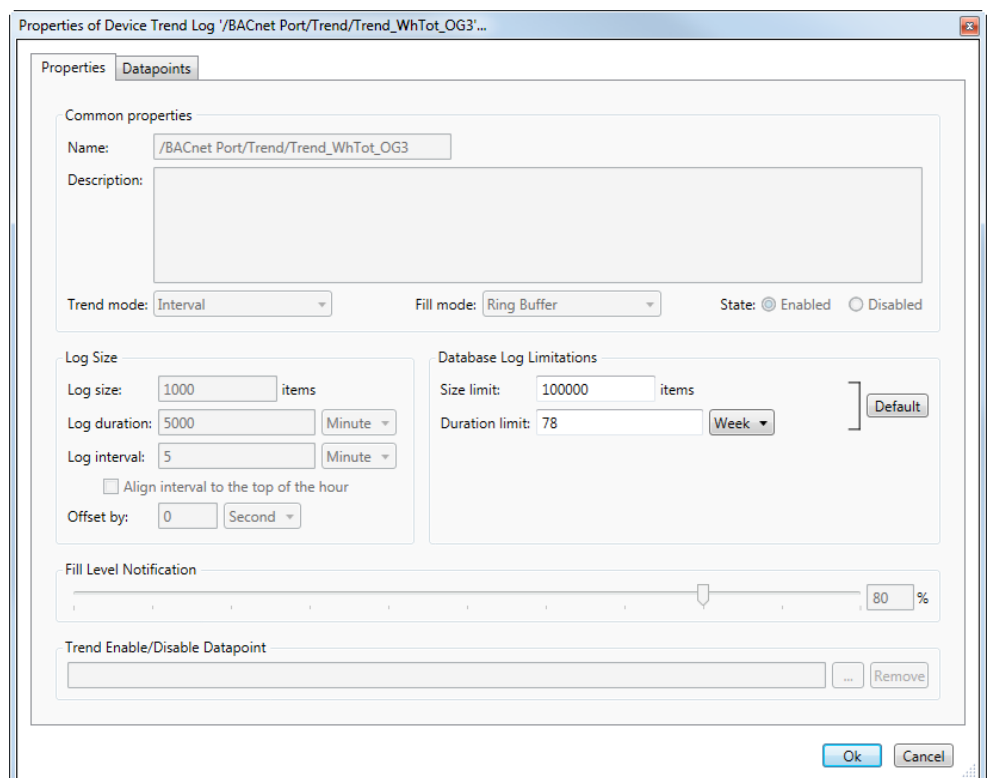

Figure 150: Device Trend Log Properties
2. The properties dialog is opened (see Figure 150). You can only modify the **Database Log Limits** (refer to Section 6.16.1) parameters. The other parameters are defined by the device configuration and cannot be edited.